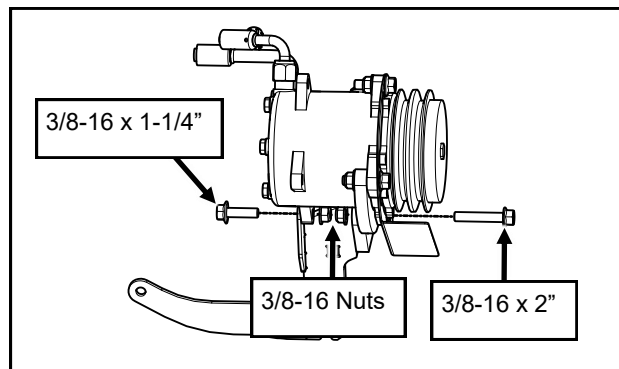

Fig. 2.11a (Install compressor)
2.11 To install the compressor, run hoses from the left to right side of the vehicle over the engine. Install the preassembled compressor to the compressor bracket. See Figures 2.11a and 2.11b. Leave hardware loose.